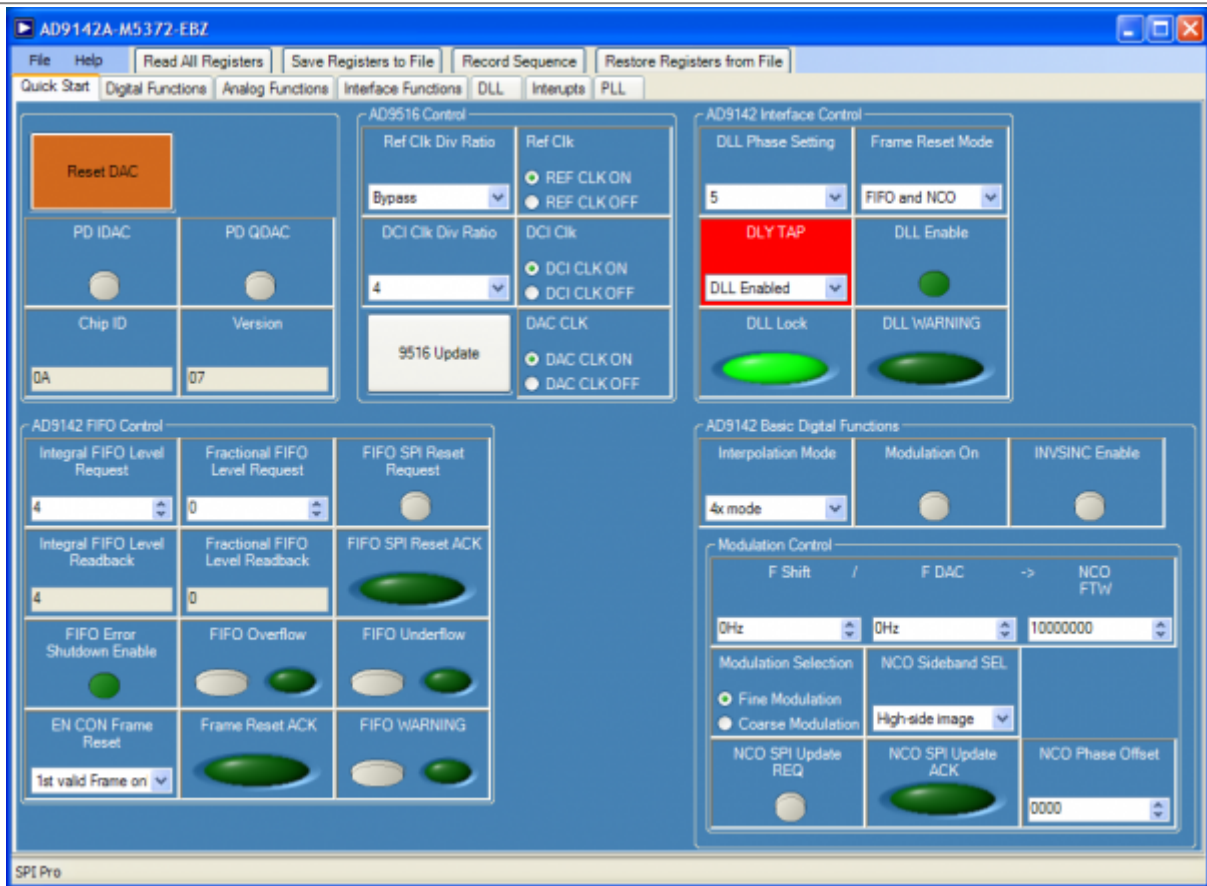
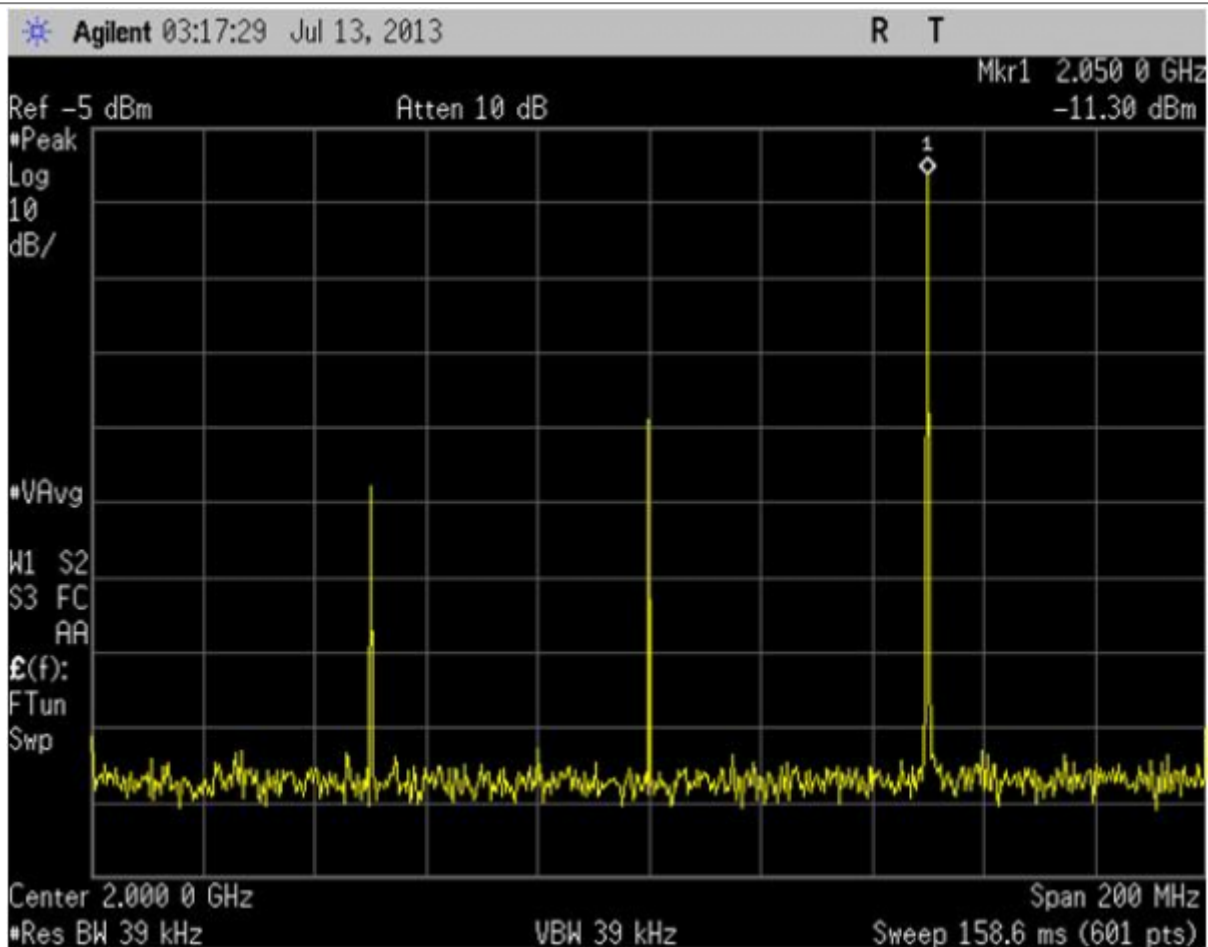

Figure 6 Configured Quick Start Tab of the AD9142A SPI software
Figure 7 AD9142A-M5372 Eval Board output Spectrum
i. Go back to the AD9142A SPI software and toggle the “FIFO SPI RESET REQUEST” button (from 0 to 1 and back to 0) to reset the FIFO. The FIFO level readback registers (INTEGRAL and FRACTIONAL) should now match the FIFO level request registers. The AD9142A SPI software and the spectrum analyzer should look like Figure 6 and Figure 7 respectively.